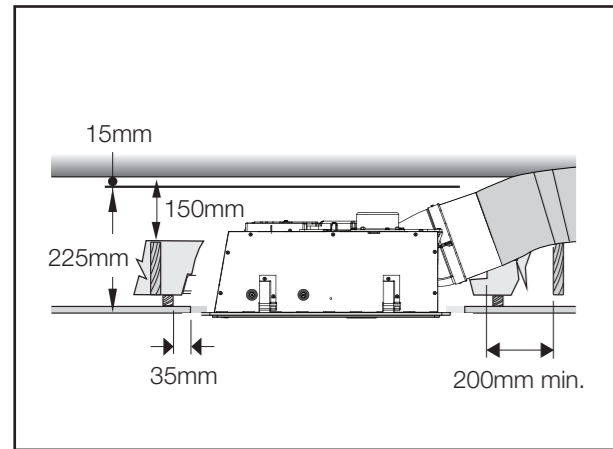

Fig 2a. Minimum clearances for installation.
- from ceiling to lowest point of ceiling cavity: 240mm (to maintain minimum 15mm clearance) (Fig 2a).
- from top of ceiling joists to ceiling cavity: 150mm (duct diameter) (Fig 2a).
If the desired orientation of the Tastic unit directs the ducting towards a ceiling joist, ensure that the closest ceiling joist is not within 200 mm of the Tastic outlet. (Fig 2a). (Ensure that the outlet of the Tastic is directed towards the outer wall)